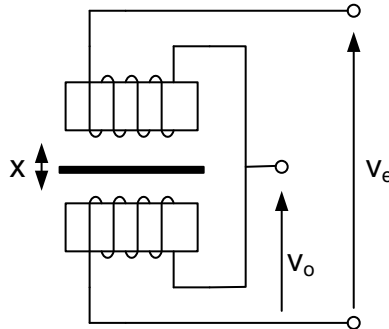

Figure 4: Inductive sensor based on two coils in series.
Figure 4 shows a two coil based linear displacement transformer that can be used to sense the displacement of an object over a distance x . The two coils each consist of N windings and are connected in series to each other. An excitation voltage v_e is placed over the two coils. The voltage drop over one of the coil (i.e., lower coil in Figure 4) is used as the output voltage v_o of the sensor.
- (5p) (b) Is the sensor shown in Figure 4 when used to sense a displacement an example of a complex sensor? (Explain your answer)